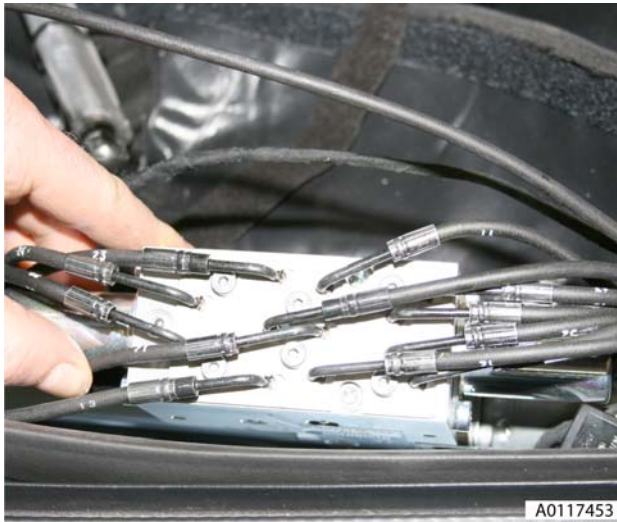

Figure 10
14. Loosen (x6) screws on pump retaining plate (see Figure 10).